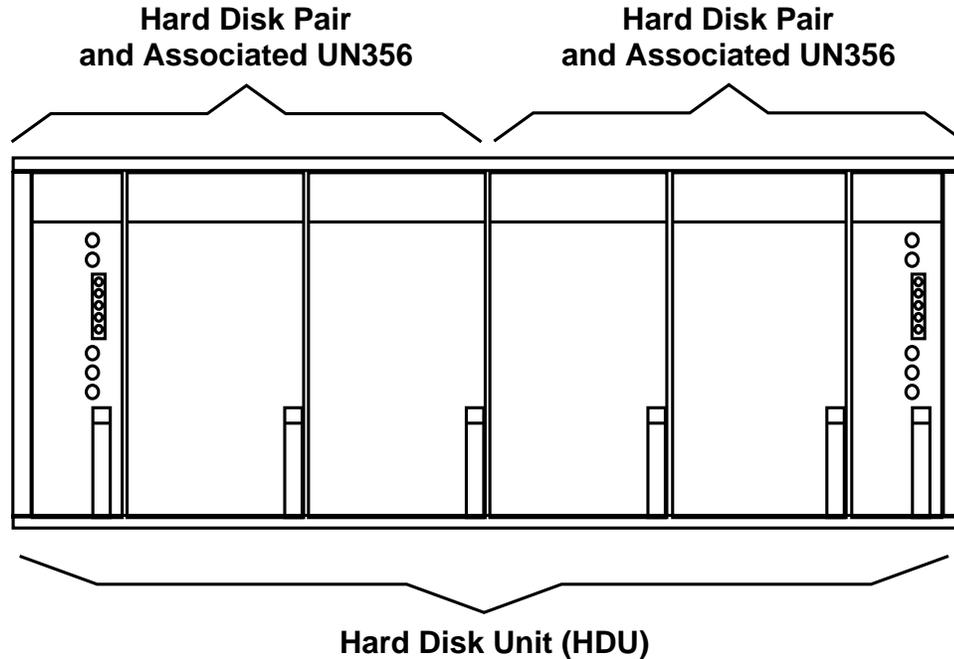

Figure 1. Hard Disk Pairs and Associated UN356 Circuit Packs
10. At the UN356 circuit pack associated with the hard disk circuit pack to be replaced, press **OFF**. (See Figure 1 for location of hard disks and associated UN356 circuit packs.)